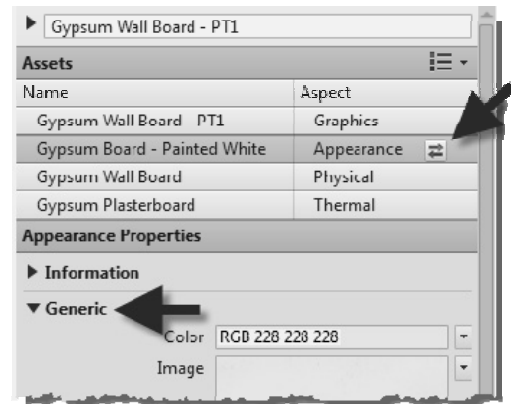

FIGURE 4-3.14 Replace asset icon
Next you will need to replace the *Appearance* asset with one specifically meant for paint. Currently it is set to *Generic* and not *Wall Paint* as pointed out in Figure 4-3.14.
43. Hover your cursor over the *Appearance* asset name and then click the small icon which appears to the right (Figure 4-3.14).